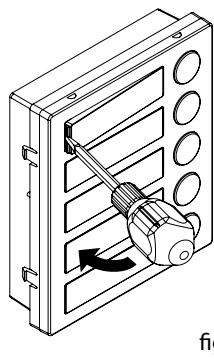

fig. 18
- Move the screwdriver to the left as shown in **Fig. 18** to extract the card name holder;